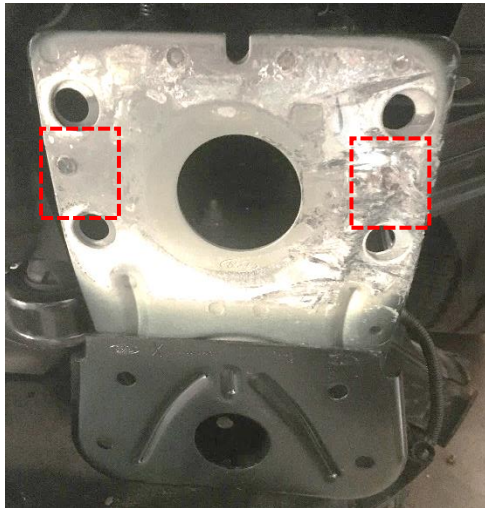

Figure 24: Exposed Metal from Bumper Removal
21. Separate any remaining wiring from the front of the frame and touch up any exposed metal surfaces with appropriate paint (Figure 24).